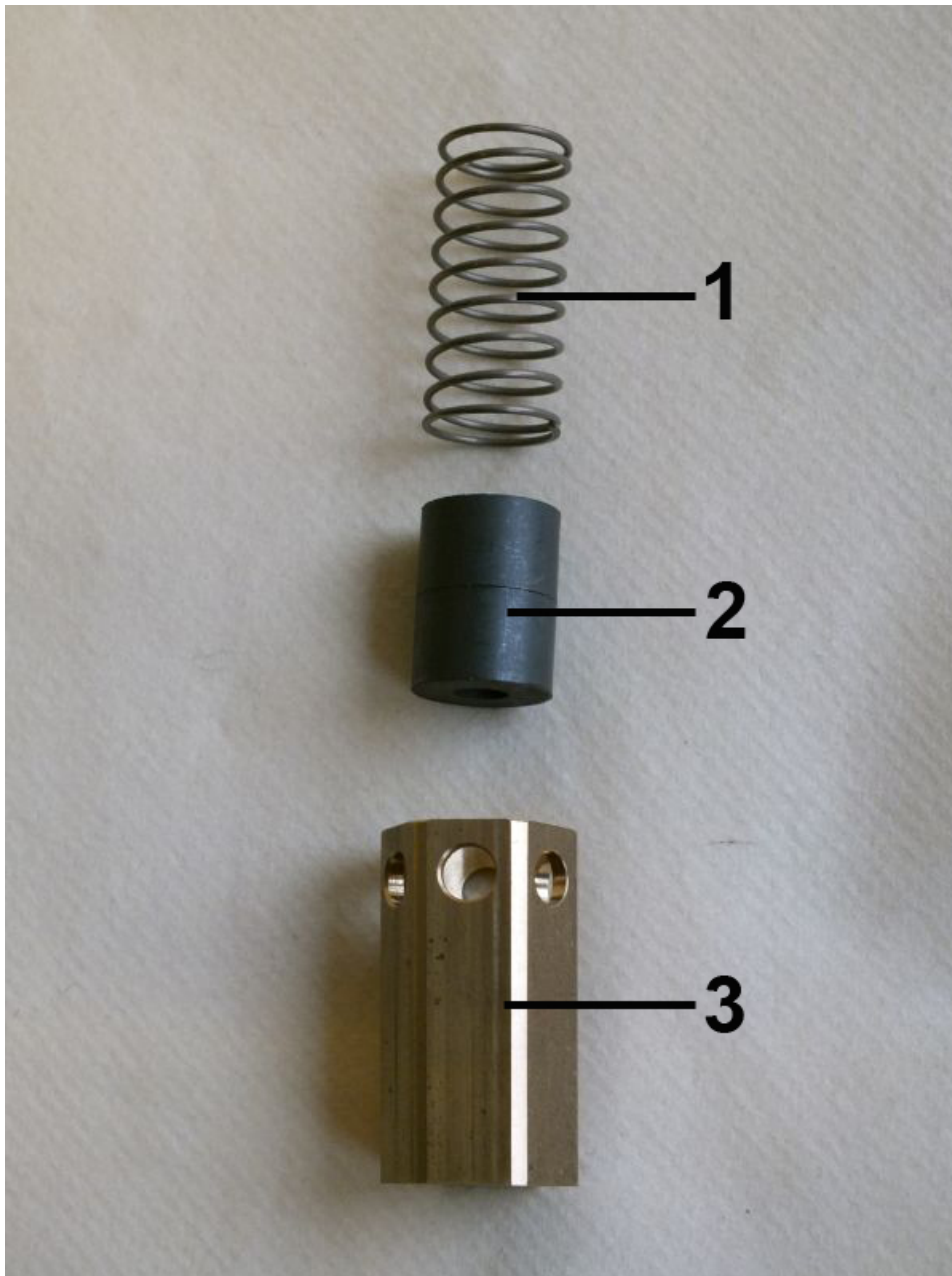

Fig. 32: Inner parts
- 4.** ➤ Insert spring (*Fig. 32/1*) with magnets (*Fig. 32/2*) into the float (*Fig. 32/3*), ensuring proper magnetic pole orientation (north pole toward device outlet).